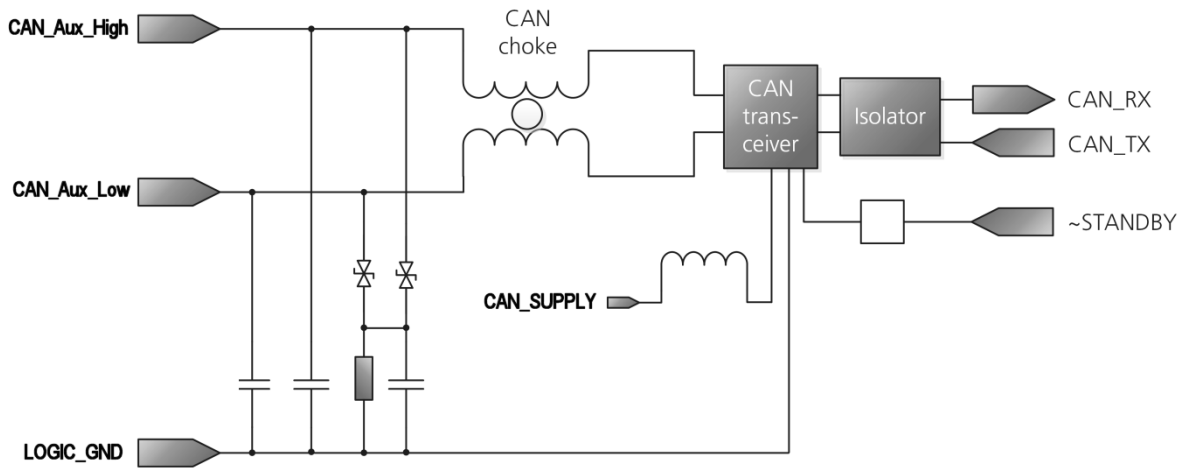

Figure 29 CAN_Aux bus module
- T₁-T₅ in Figure 29 are application-specific